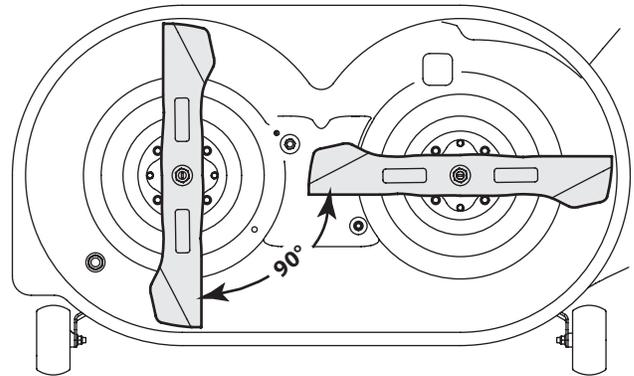

Figure 8.27
7. To install the timing belt turn the blades 90° apart. See Figure 8.27.